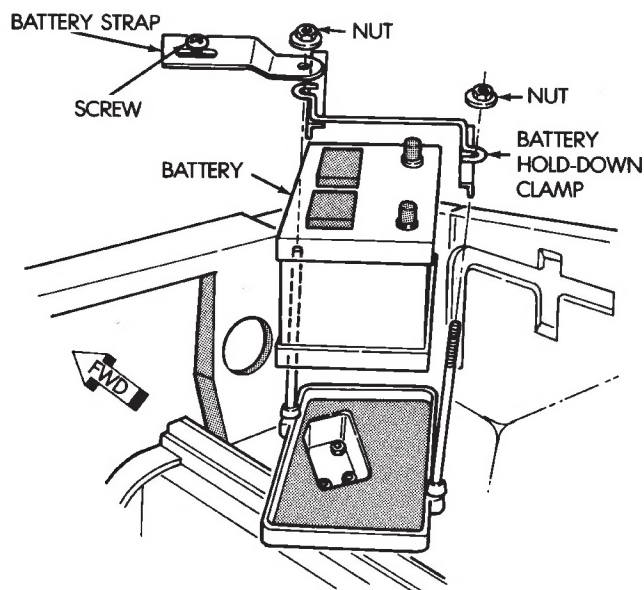

Fig. 4 Battery Holddown—XJ
(4) Remove battery holddowns (Fig. 4 or 5) and remove battery from vehicle.